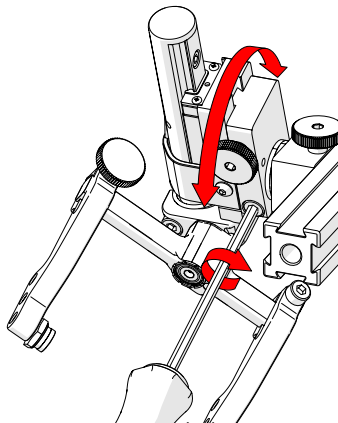

Fig. 126 - Rotate to position
4. Tighten the longitudinal adjustment screw (*Fig. 126*).